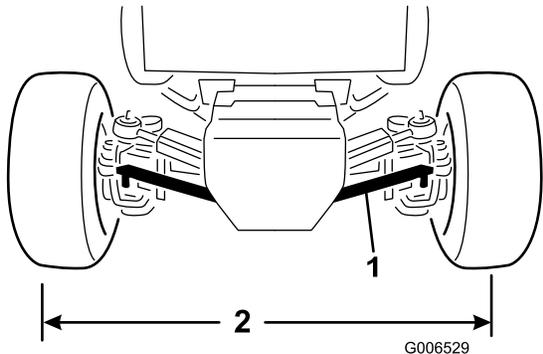

Figure 65
1. Remove cotter pin and castle nut securing 1 tie-rod ball joint to the mounting bracket on the axle and separate the ball joint from the axle (Figure 65).
3. Rotate the tie-rod ball joint in or out until the center-to-center distance at front and back of the rear wheels is the same (Figure 65).